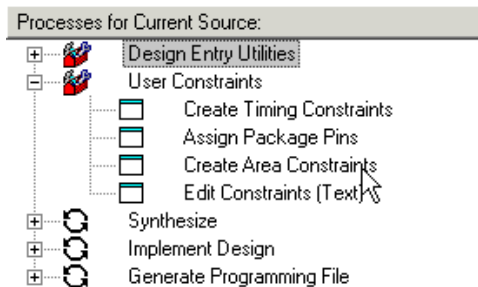

Figure 1: Opening PACE from Project Navigator
- Double-click Create Area Constraints in the Processes window (Figure 1).